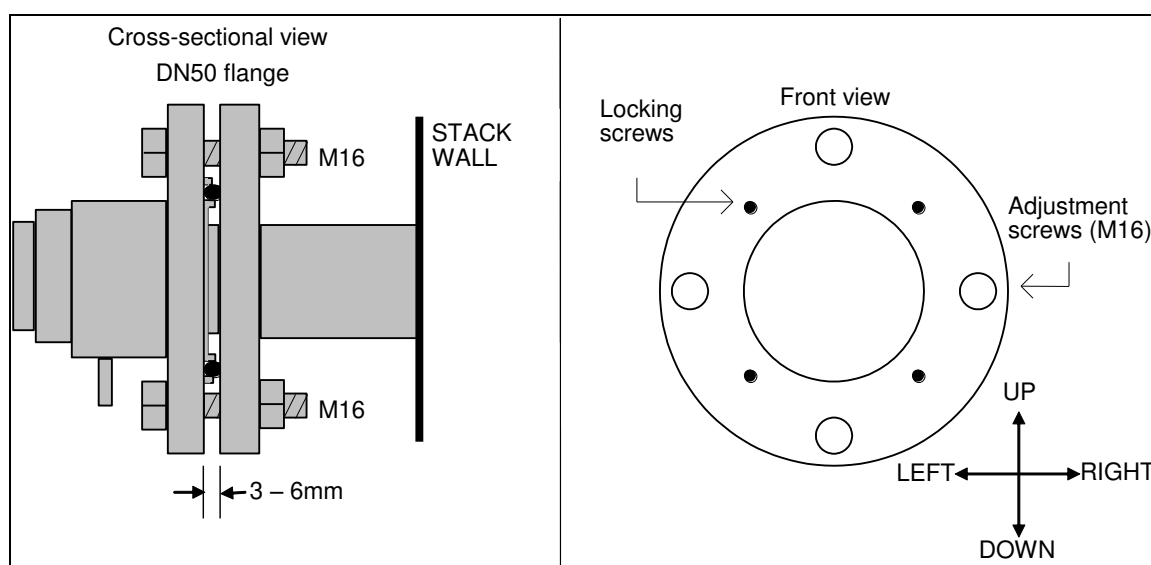

Figure 3-3: Alignment mechanism details
1. Install transmitter alignment and purging unit (3) onto the process flange (9) with the large O-ring and 4 pcs. M16 x 60 bolts (ref. Figure 3-3). All 4 bolts on either side must be tightened firmly to compress the large O-ring. Use the gap gauge (were available) to set the initial gap to 6mm all around the flange. This assures a uniform and minimum satisfactory compression of the O-ring.
4. Connect the transmitter unit to the alignment unit. Tighten the transmitter-mounting nut (2), whilst supporting the transmitter unit. Please note after fully tightening the transmitter-mounting nut, do not turn the transmitter unit anticlockwise, as such action can break the thread locking of the TU mechanical parts. If it is necessary to rotate the transmitter unit, first loosen the transmitter mounting nut, then rotate the transmitter unit. Re-tighten the nut again whilst supporting the TU. Please note it is recommended that two people install the TU, one to support the TU whilst the other tightens the mounting nut.
2. Use an IR-card to locate the laser beam on the receiver side. The spot image is hard to detect in daylight - using a light blocking screen or shade for cover will help. If the laser beam cannot be detected, loosen the adjustment screws shown in Figure 3-3 on the transmitter unit and move it carefully from side to side and up and down to locate the laser beam using the IR card. (You will need two people!)
Please note that in order to move the RU field view axis to left direction (see Figure 3-3) one should use the following procedure.
4. For initial adjustment, loosen the adjustment screws shown in Figure 3-3 **Error! Reference source not found.** on the transmitter unit purging flange and move it carefully from side to side and up and down to locate the laser beam in the receiver hole/target window (you may need two people). Always hold and support the transmitter unit when tightening the locking screws and the adjustment screw on the transmitter unit side.
3. Locate the laser beam on the transmitter side target window. Loosen the adjustment screws shown in Figure 3-3 on the receiver unit purging flange and move it carefully (following the procedure described above) from side to side and up and down to locate the laser beam in the transmitter target (you may need two people).